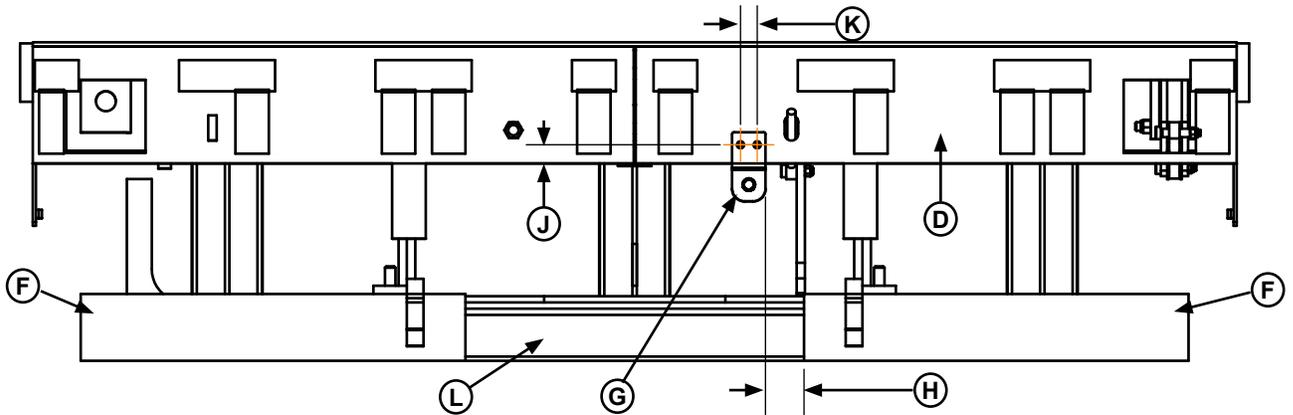

Figure 13
1. Verify that the shipping plate (**E**) has been removed from the leveler frame. See **Figure 13**. If the plate remains installed, remove it by cutting the plate on both sides. Two angles should remain at the front of the frame (**F**).